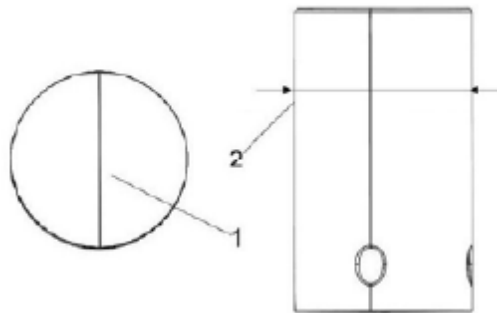

Figure 96.
1. Inspect the tappet contact surfaces for abnormal wear (Figure 96, Item 1).
2. Measure the outside diameter of the tappet stem (Figure 96, Item 2). See the *Mechanical Specifications Chart* for the service limit.